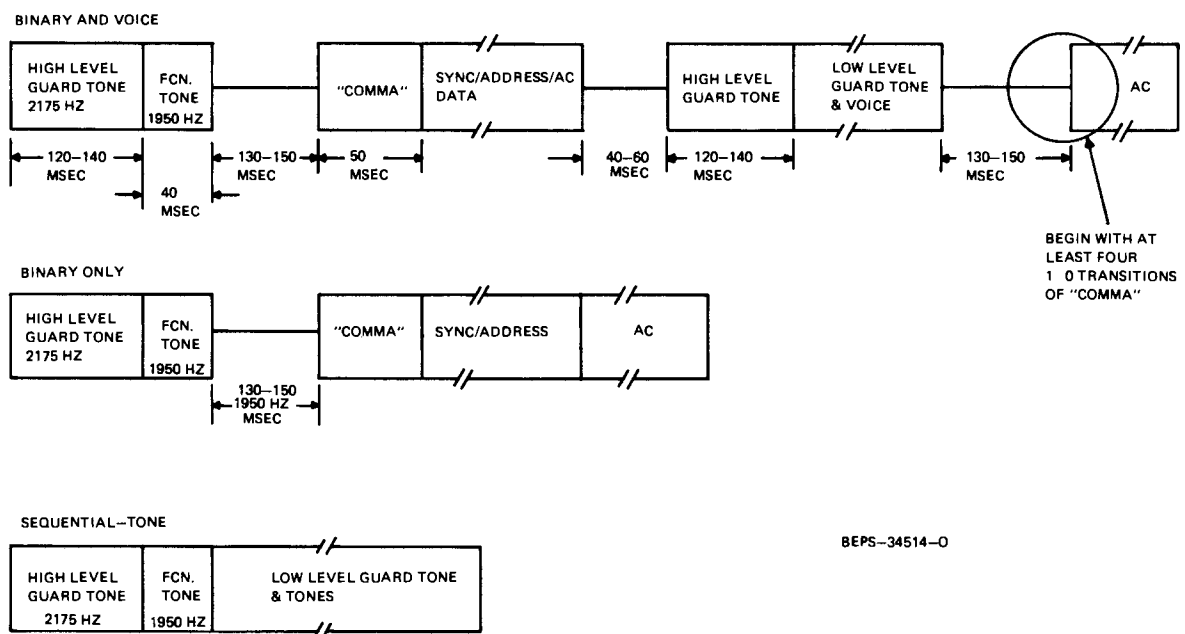

Figure 1. Single Transmitter Sequential Tone Control Format
3. BINARY CONTROL (See Figure 1, Binary Only)
(See Figure 1 Single Transmitter Sequential Tone Control Format)
(See Figure 1 and Figure 2)